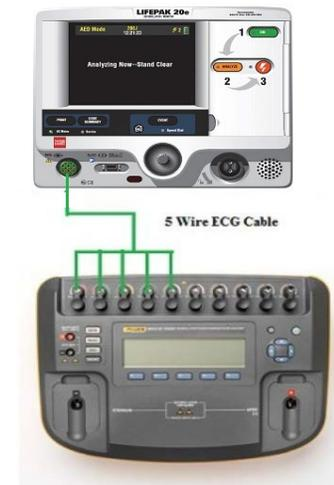

Figure 1.12: 5 Lead ECG Leads Test Setup
1. Connect the 5-wire ECG cable between the device and Impulse 7000DP as shown in Figure 1.12.